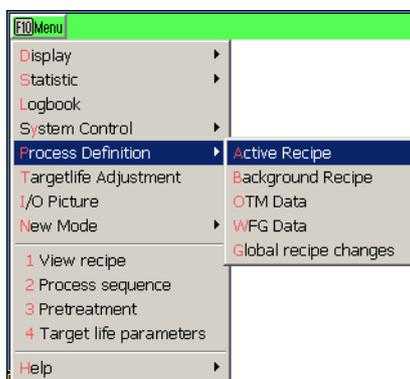

Fig. 6-4 Opening the «Recipe» screen
- 2 Select [Process Definition] > [Active Recipe]. See Fig. 6-4, 131.